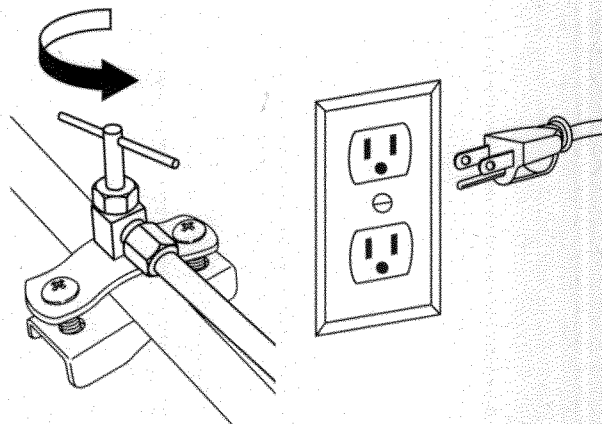

Figure 16
4. Insert the electrical plug for the combined refrigerator/freezer into the electrical outlet (Figure 16).